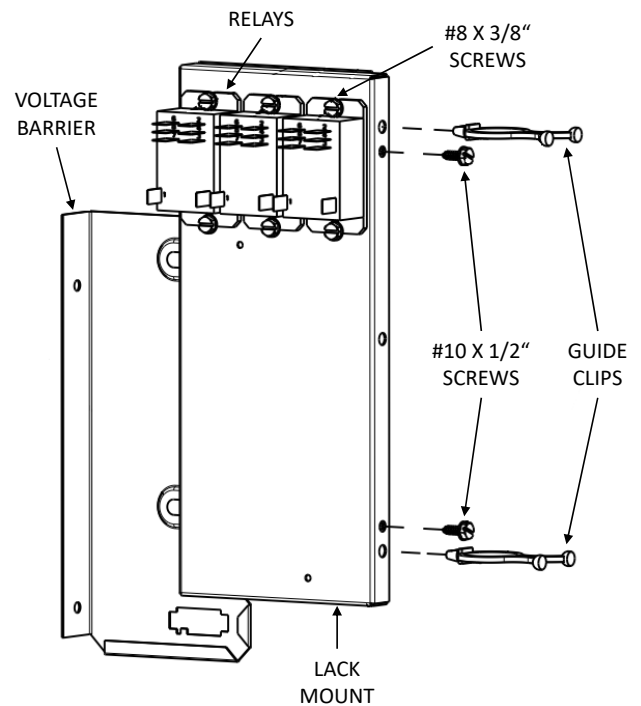

FIGURE 11
4. Attach the relay(s) to the LACK Mount using the #8 X 3/8" screws and press the Guide Clips into place. See Figure 11.